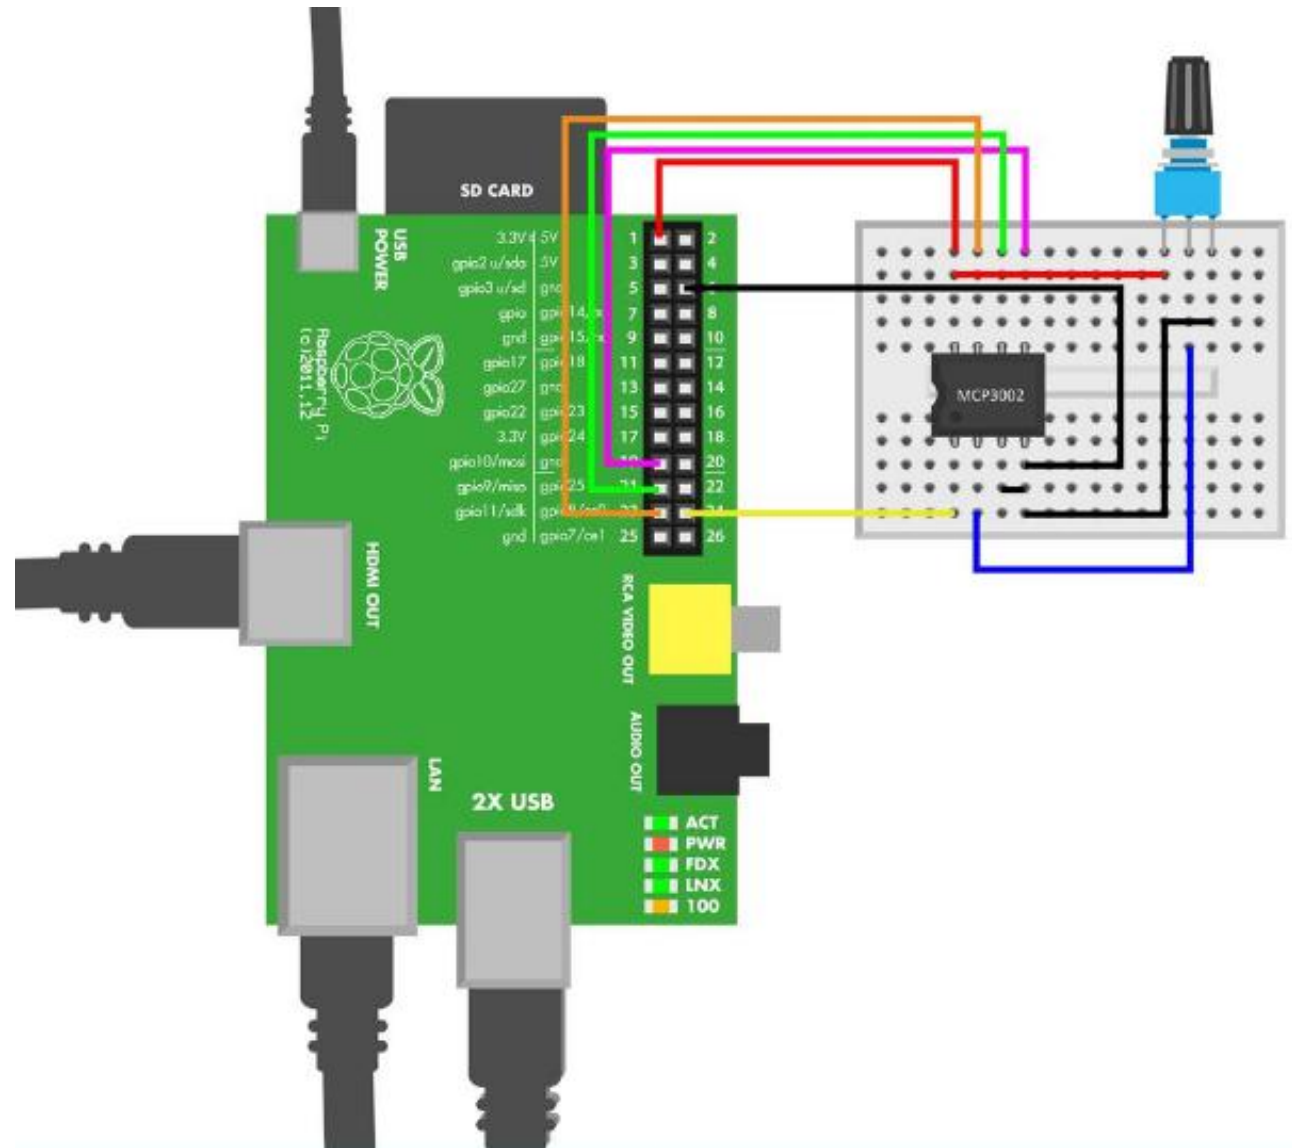

Figure 5-11. Potentiometer circuit for Raspberry Pi
- Figure 5-11 shows the circuit diagram for using a pot with Raspberry Pi.